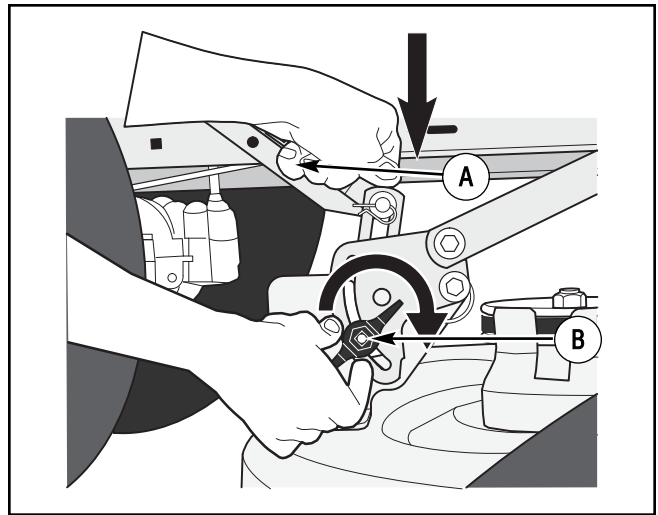

Figure 36: Loosening adjuster knobs
5. Loosen the left and right **adjuster knobs** (Figure 36). Push down on each side of the mower deck. Make sure both sides of the mower deck are setting on a flat surface. Also, make sure the lift links are loose and can easily move up or down.
6. Push down on the **lift links** and tighten the left and right **adjuster knobs** (Figure 36). Make sure the **adjuster knobs** are tight. If necessary, use a wrench to tighten the **adjuster knobs**. For plastic **adjuster knobs**, tighten to a torque of 7 foot pounds (9,5 Nm). For metal **adjuster knobs**, tighten to a torque of 10 foot pounds (13,5 Nm).